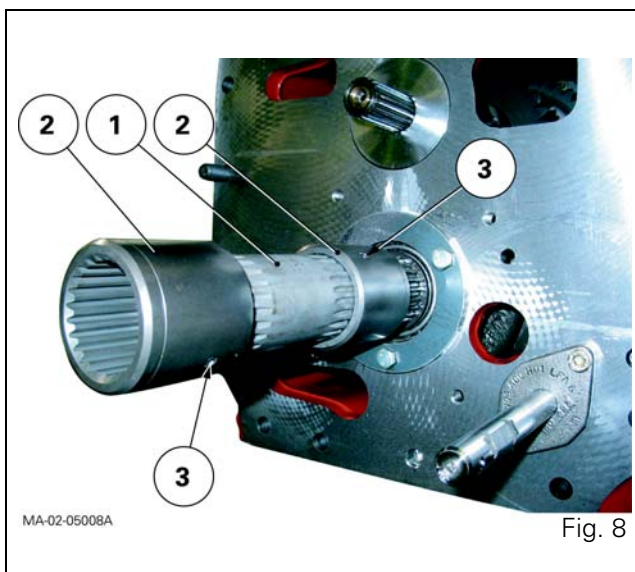

Fig. 8
- Presence of the union shaft (1) composed of the sleeves (2) and double pins (3) (Fig. 8).